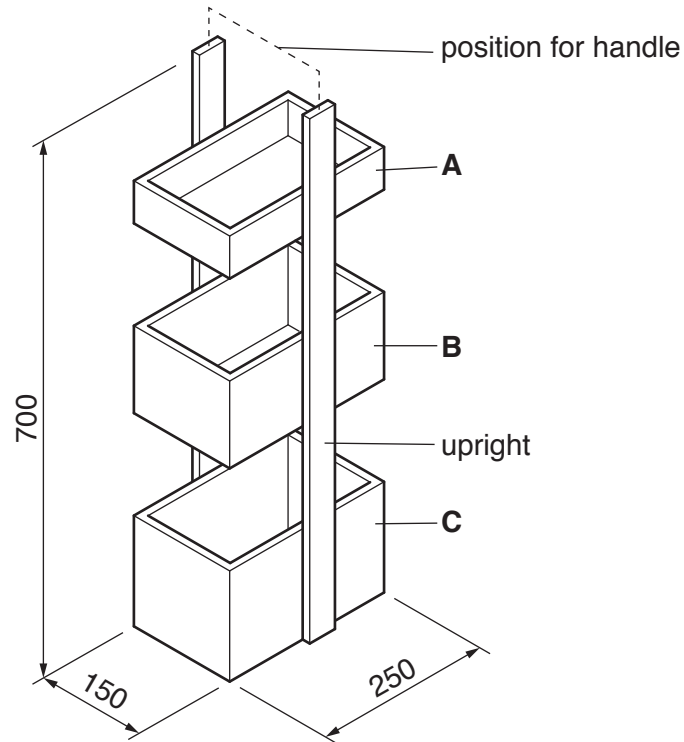

Fig. 9
- 11** Fig. 9 shows an incomplete design for a floor standing bathroom storage unit made mainly from softwood. The storage unit will be batch produced and the parts delivered to customers for self-assembly.
- (c) Use sketches and notes to show a design for a handle that could be fitted in the position shown in Fig. 9.